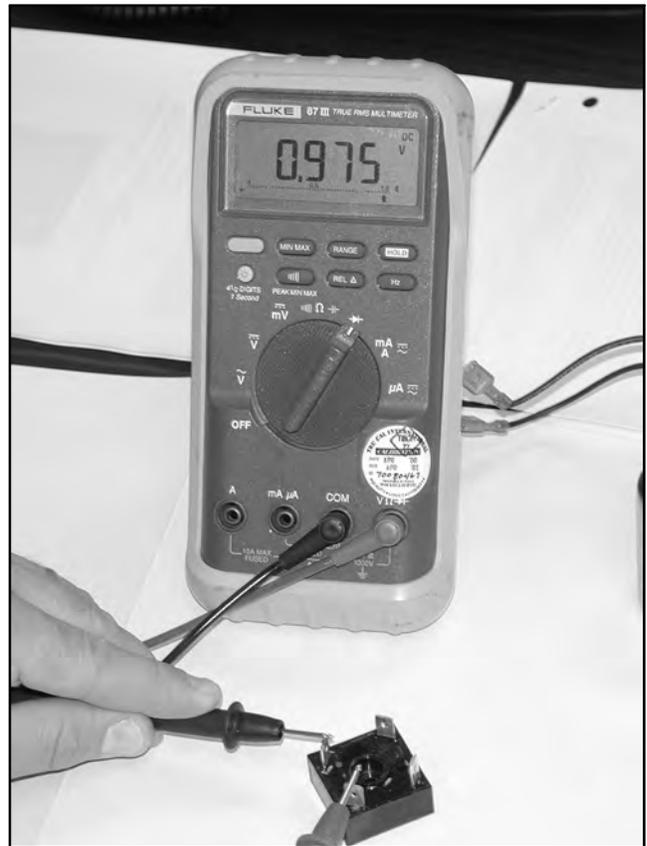

Figure 6-21 Checking Rectifier Diode Operation
- Check the diode operation of the rectifier. See Figure 6-21 and Section 3.5 for rectifier test instructions. If the rectifier is bad, replace it. If the rectifier is good, proceed to step 9.